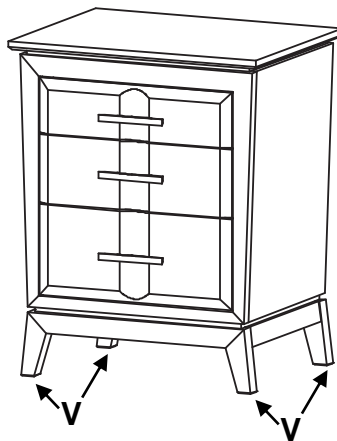

Fig. 2
2. Place the unit at its final destination. Rotate the Small Adjustable Glides (V) on the bottoms of the legs until the unit is level. See Figure 2.